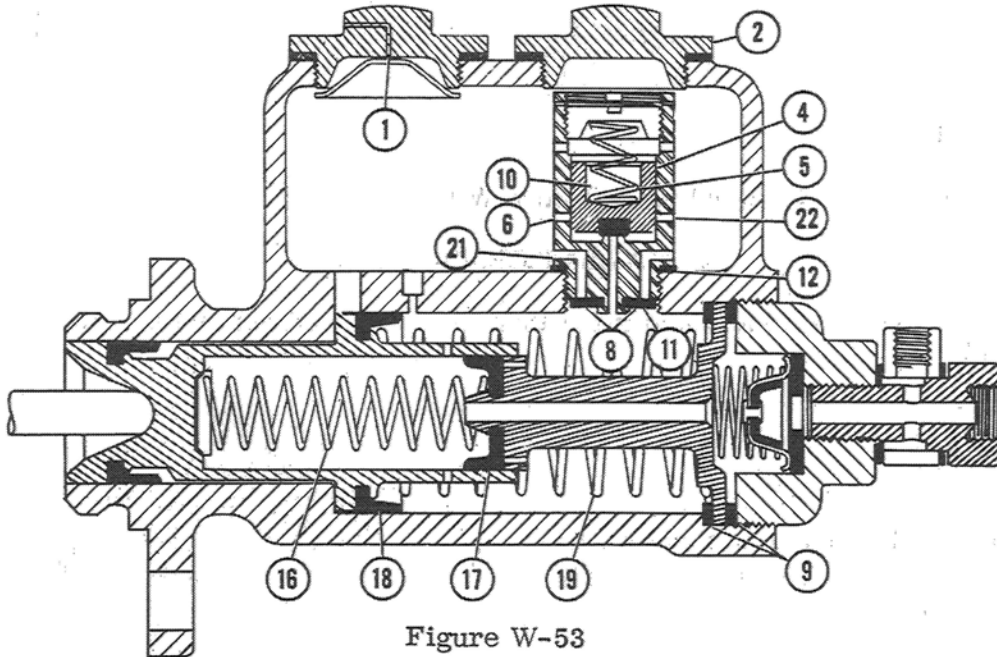

Figure W-53
| 3. Ruptured high pressure cup (Figure W-53) - (17) or low pressure cup (Figure W-53) - (18)  | 3. Install master cylinder repair kit as outlined in disassembly and assembly section.  |
| 4. Loss of pressure in the low pressure chamber due to a defective relief valve check disc (Figure W-53) - (8)   | 4. Refer to remedy #3.  |
| 5. Loss of pressure in the low pressure chamber due to a broken relief valve spring (Figure W-53) - (5) or relief valve piston held open due to dirt (Figure W-53) - (5) | 5. Clean or replace relief valve as required.   |
| 6. Loss of pressure in the high pressure chamber due to defective high pressure piston gaskets (Figure W-53) - (9) | 6. Refer to remedy #3.                         |
| 7. Defective check valve spring, disc or gasket (Figure W-53) - (10) (11) (12)                                     | 7. Refer to remedy #3.                         |